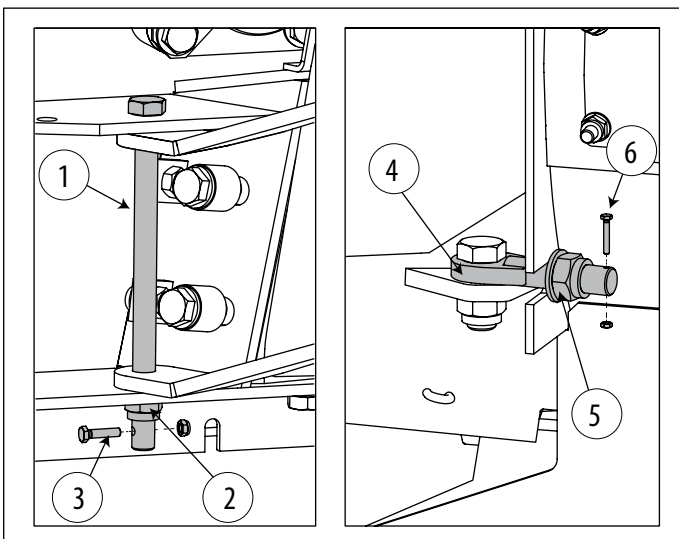

Fig. 4. Mounting the feeder
1. Mount the feed unit on the left-hand side of the chipper using a M16x240 locking screw (1) and a M16 locking nut (2). Insert the M6x25 screw (3) into the hole of the locking screw and tighten it. Swing in the feed unit. Insert the locking screw (4) of the feed unit into the groove on the chipper and lock the feed unit by the M20 locking nut (5). Insert the M4x25 screw (6) into the hole of the locking screw and tighten it. See fig 4.